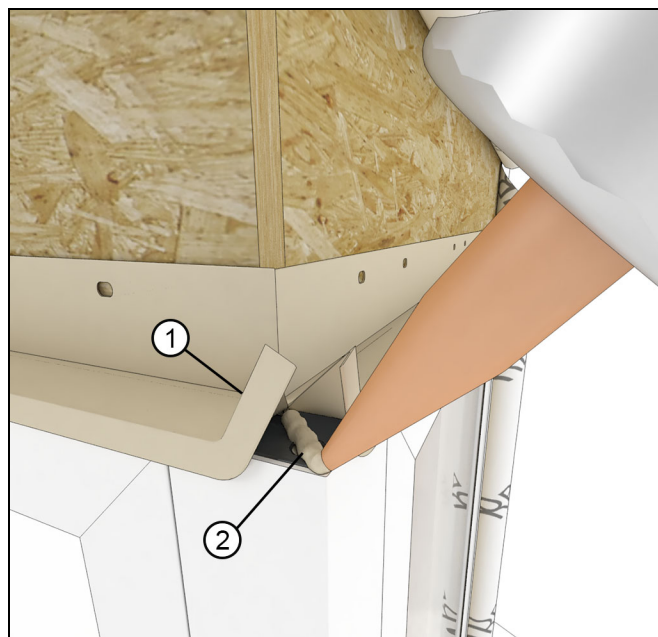

Figure 56
5. Apply a bead of sealant at the top corner under the mitered edges of drip cap. See Figure 56.